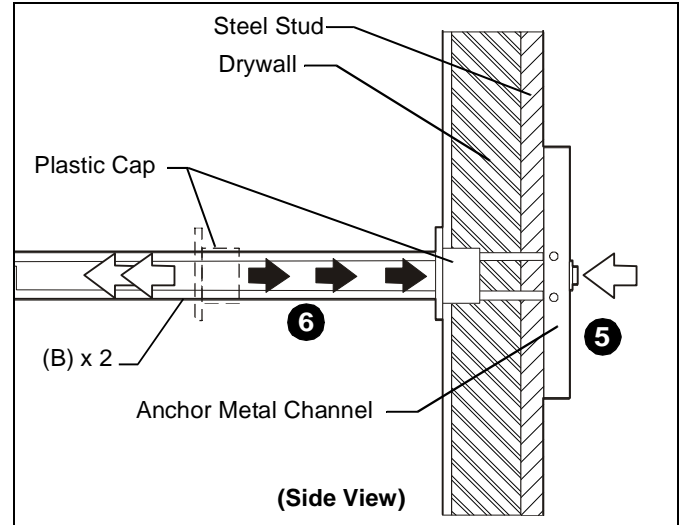

Figure 12
5. Holding plastic straps on anchor (B), pull anchor away from wall until channel rests flush behind wall making sure anchor channel is positioned vertically on stud. (See Figure 12)
6. Slide plastic cap on anchor (B) towards wall until flange of cap is flush with wall. (See Figure 12)